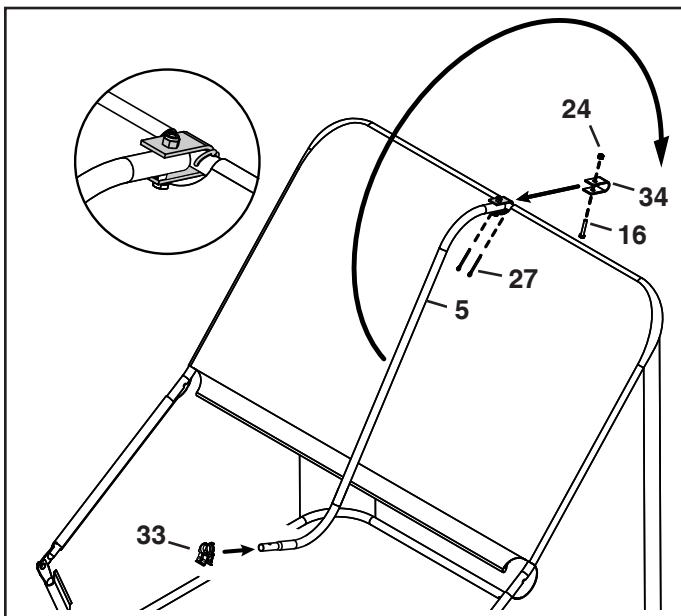

FIGURE 14
STEP 14: (SEE FIGURE 14)
- Install two cotter pins (27) in the rear hopper tube. Bend ends of cotter pins around tube.
- Slide the dump handle clip (33) onto the dump handle.
- Attach the dump tube to the rear hopper tube using a U-clamp (34) placed between the cotter pins, a 1/4" x 1-1/2" hex bolt (16) and a 1/4" nylock nut (24).